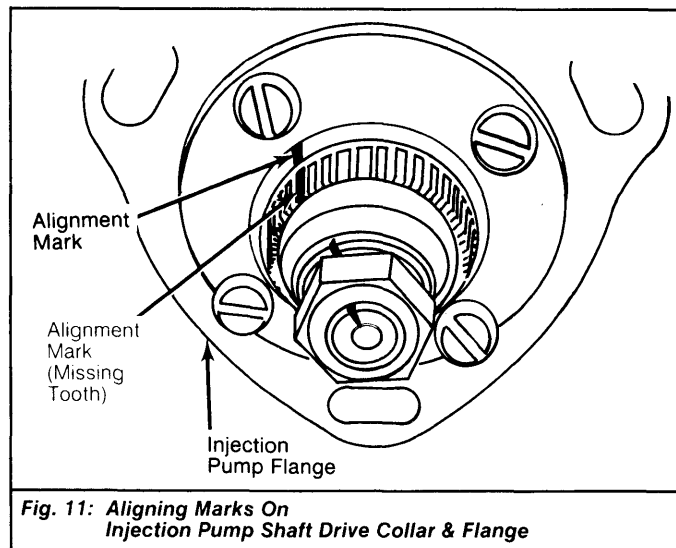

Fig. 11: Aligning Marks On Injection Pump Shaft Drive Collar & Flange
2) Remove plug from oil overflow pipe as rear of injection pump. Set injection pump to "START OF FUEL DELIVERY" position by turning pump shaft until drive collar tooth gap and injection pump marks align. See Fig. 11. See ADJUSTMENTS in this article.
3) Set injection pump to "START OF FUEL DELIVERY" position by turning pump shaft until drive collar tooth gap aligns with pump shaft and pump flange marks. See Fig. 11. See ADJUSTMENTS in this article.